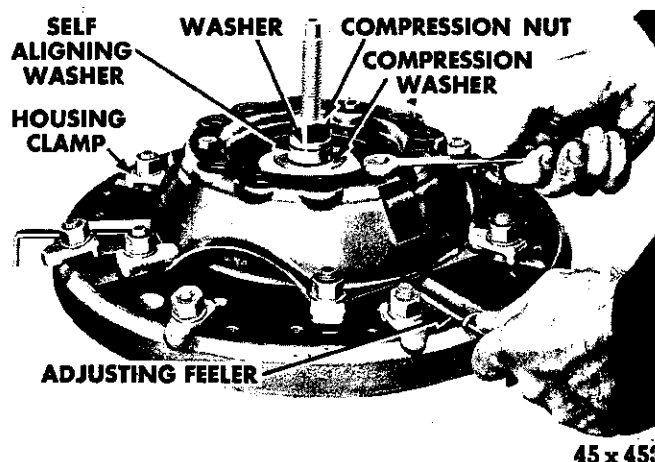

Fig. 6—Adjusting Clutch Release Levers
(11) Apply the fixture clamps at each cover retainer bolt hole to hold the assembly to the fixture.
(12) Turn the eye bolt nuts down flush with the ends of the bolts. This is a temporary position.
(13) Remove the compression nut, washer and spider and push each lever down several times to be sure that the levers are seated properly.
(14) To adjust the release levers, install spacer Tool C-585-19 on the fixture center screw, then lever compression plate Tool C-585-36, flat side down. Install the thrust washer and compression nut and tighten the nut (Fig. 6).
(15) Adjust the eye bolt nuts until the feeler blades have the same drag or feel while being pushed in or pulled out.
(16) After all levers are adjusted, measure the drag of the feeler blades before staking the eye bolt and nuts.
(17) Remove the clutch from the fixture.